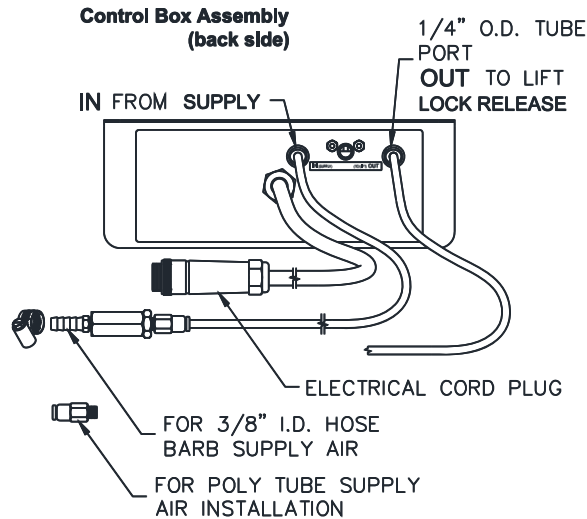

Fig 13 –Back of 3-Button Control
20. Connect the 1/4" airline to the 3-button controller. Connect the shop air to the 3/8 ID Barbed Fitting or 1/4 NPT x 1/4 TUBE UNION Fitting. See **Fig 13**.